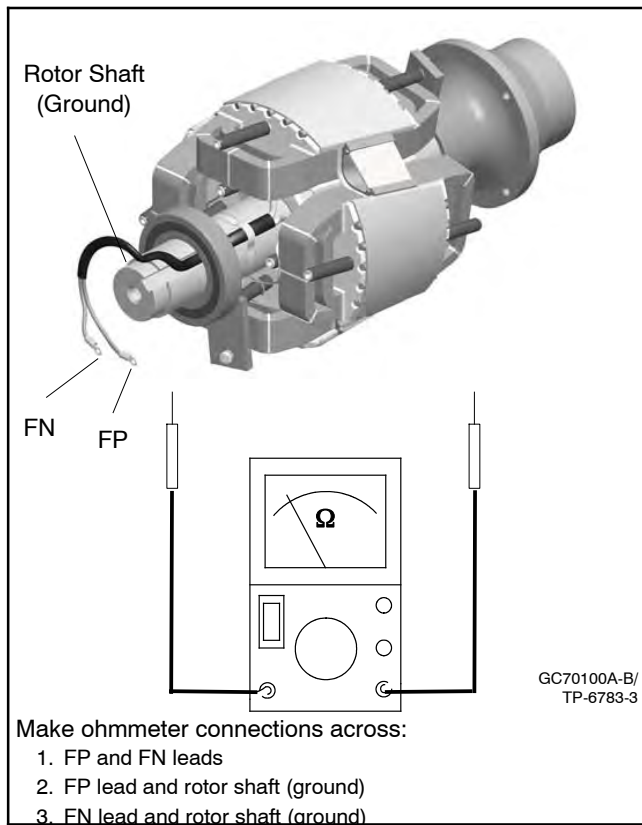

Figure 11-11 Rotor Field Continuity Check
4. With an ohmmeter, check for continuity across the FN/FP leads. Check for continuity across FN/rotor shaft and FP/rotor shaft. See Figure 11-11. See Section 1.8, Specifications, Electrical Values for rotor assembly field resistance values.